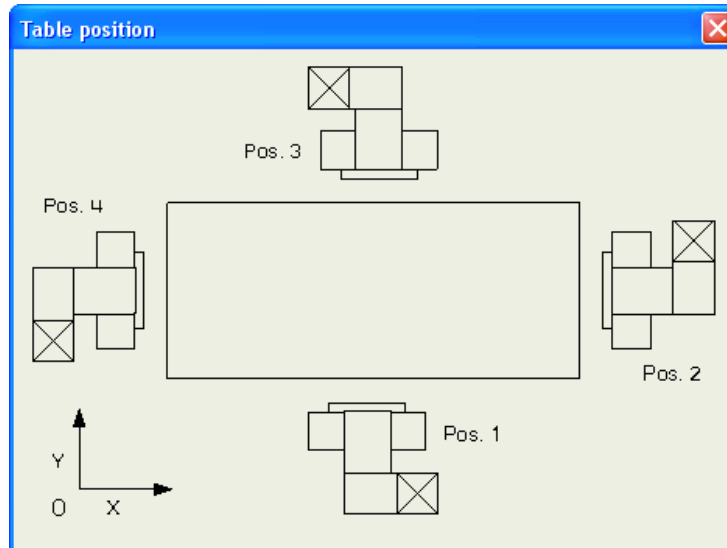

Fig. 4-139 Table position
2. Move the stand to position 1, see **Fig. 4-139**. Press the *Set pos. 1* button.
3. Move the stand to position 2, see **Fig. 4-139**. Press the *Set pos. 2* button.
4. Move the stand to position 3, see **Fig. 4-139**. Press the *Set pos. 3* button.
5. Move the stand to position 4, see **Fig. 4-139**. Press the *Set pos. 4* button.